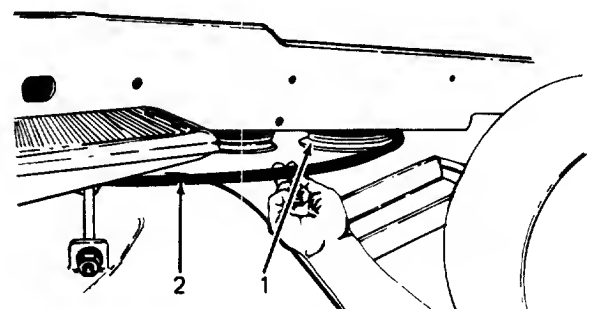

Figure 36
3. Slip drive belt off electric PTO pulley on tractor. (Refer to Figure 36.)